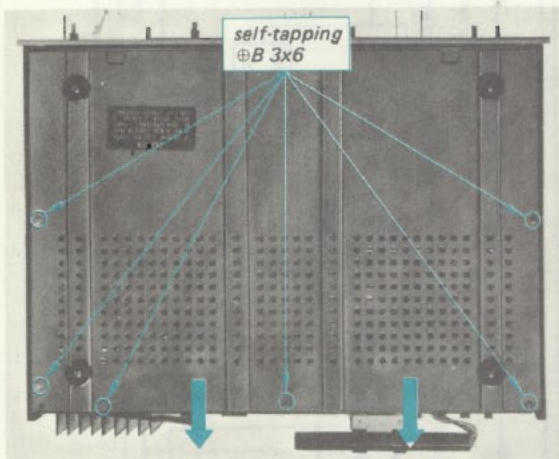

Fig. 2-1. Bottom plate removal
2. Remove the six self-tapping screws ($\oplus B 3 \times 6$) at the bottom of the receiver and pull the bottom plate in the arrow direction in Fig. 2-1.